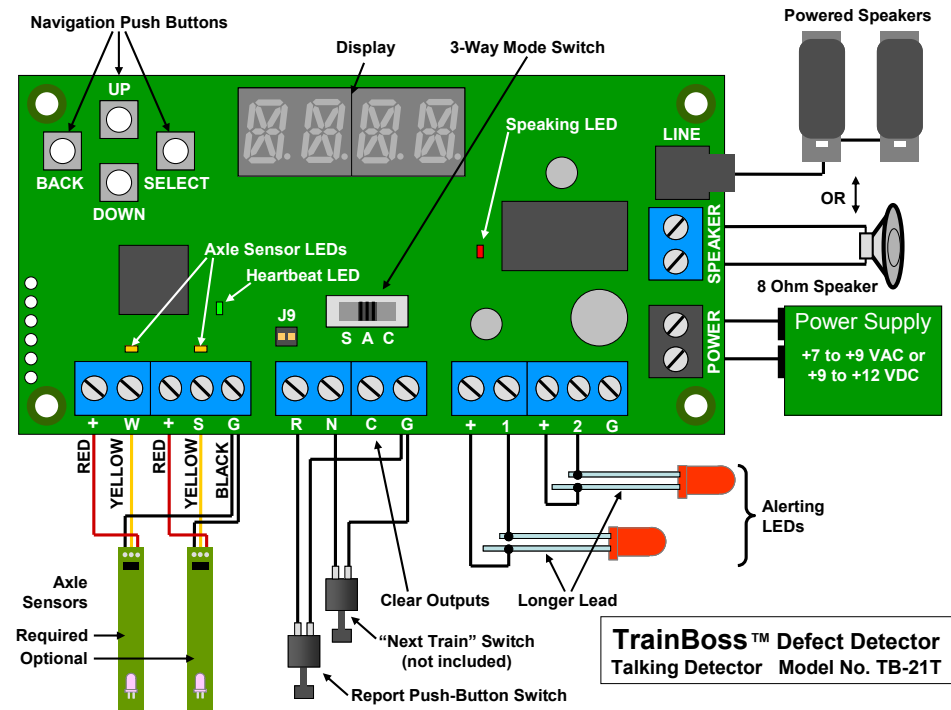

Figure 4: Circuit Board & Wiring Diagram
Figure 4 shows how to wire your **TrainBoss™ Defect Detector** for voice reporting, along with key features on the circuit board.
1. Connect two wires from your power supply to the Defect Detector power **gray** terminals as shown in **Figure 4**. Polarity does not matter. The power supply must be 7 to 9 Volts AC or 9 to 12 Volts DC, with 250 mA capacity. Radio Shack sells an AC adapter (#273-314) that works well.
2. Connect the RED, BLACK and YELLOW wires from the Axle Sensors as shown in **Figure 4**.
4. You can wire Alerting LEDs as in **Figure 4**. LEDs are polarity sensitive – connect the long and short leads as shown. Visit
5. The **Report** Switch triggers or repeats a defect report. Connect the push button **Report** Switch (included) as shown in **Figure 4** and mount on your fascia.
6. The **Next Train** Switch forces a defect report on the next train when pressed, which is nice for testing. If desired, connect a push button **Next Train** Switch (n. o. type – not included) as shown in **Figure 4**.
The 3-way Mode Switch positions are labeled S, A, and C. See **Figure 4**. Changing the switch position immediately puts the Defect Detector into a new mode:
1. Use the Navigation pushbuttons (UP, DOWN, SELECT, BACK – see **Figure 4**) and the Display to move among SVs. A light touch is best.